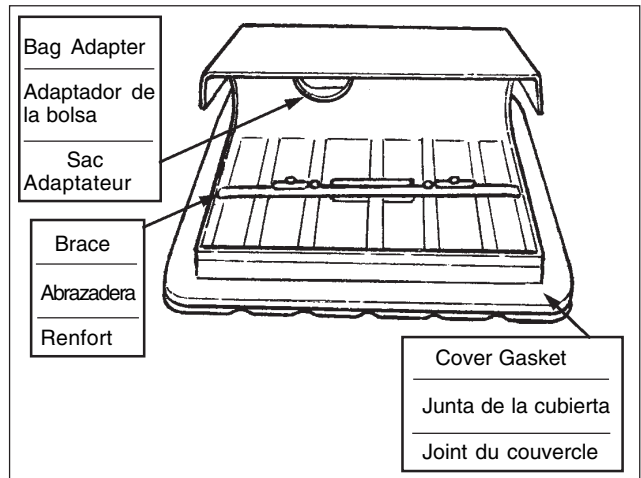

Figure 2
- b. The filter bag inlet is designed with a rubber gasket that fits securely over the bag adapter (figure 2) in the cover. Push the filter bag inlet over the adapter on the cover. Then from the outside of the cover, reach inside the adapter and push the gasket on the rest of the way.